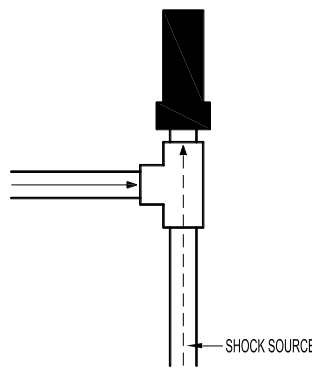
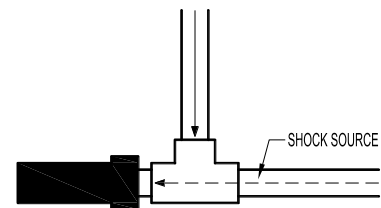

Fig. 2
Fig. 3
**PLACEMENT:** Water hammer arrestors should be placed as close to the source of shock as possible. Both hot and cold water branches should have arrestors. There should be an unobstructed path from the shock source to the water hammer arrestor. In figure 1, two shock waves are allowed at points A and B. Figure 2 shows the proper vertical installation, and figure 3 shows the proper horizontal installation. Water hammer arrestors should not be installed in the inverted position.